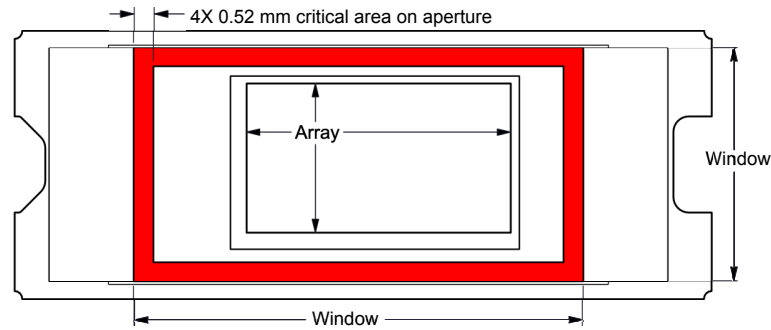

图 6-1. Illumination Overfill Diagram - Critical Area
- (16) The average over time (including storage and operating) that the device is not in the elevated dew point temperature range.
- (17) Exposure to dew point temperatures in the elevated range during storage and operation should be limited to less than a total cumulative time of CT_{ELR}.
- (18) The maximum marginal ray angle of the incoming illumination light at any point in the micromirror array, including Pond of Micromirrors (POM), should not exceed 55 degrees from the normal to the device array plane. The device window aperture has not necessarily been designed to allow incoming light at higher maximum angles to pass to the micromirrors, and the device performance has not been tested nor qualified at angles exceeding this. Illumination light exceeding this angle outside the micromirror array (including POM) will contribute to thermal limitations described in this document, and may negatively affect lifetime.
- (19) The active area of the device is surrounded by an aperture on the inside of the DMD window surface that masks structures of the DMD device assembly from normal view. The window aperture is sized to anticipate several optical operating conditions. Overfill light directly illuminating the window aperture can create adverse imaging effects, and additional device heating leading to reduced device lifetime. Direct incident illumination should be prevented from striking the DMD window aperture.
- (20) Applies to the region in red in Figure 6-1, at the inside plane of the glass window where the physical aperture is located.